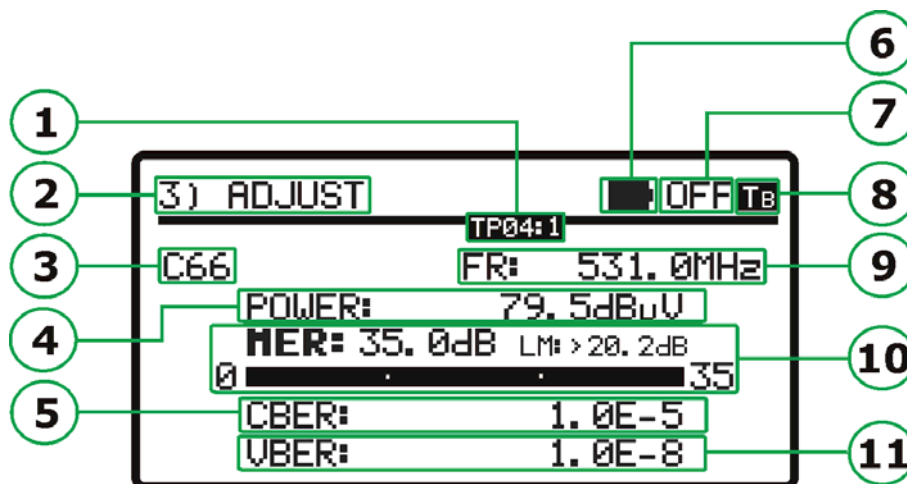

Figure 17. ADJUST function.
- 3 Measurements are shown on the screen in a graphical and alphanumerical way (see figure 17.). The unit of measure of the power average is configurable by software. It can be selected among dBμV, dBmV or dBm.